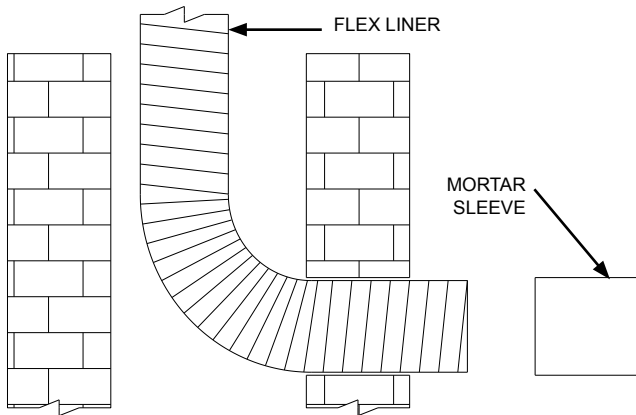

FIG. 9
Step 6: Slide Mortar Sleeve over flex liner and into masonry until flush (See FIG. 9). After the Mortar Sleeve is in place, the space between the sleeve and masonry may be filled with grout.